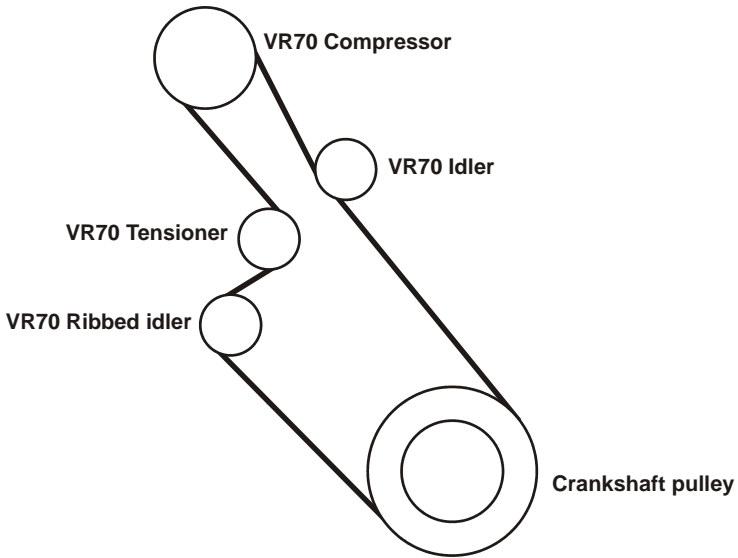

Figure 2.5
- Install the VR drive belt (Figure 2.5).